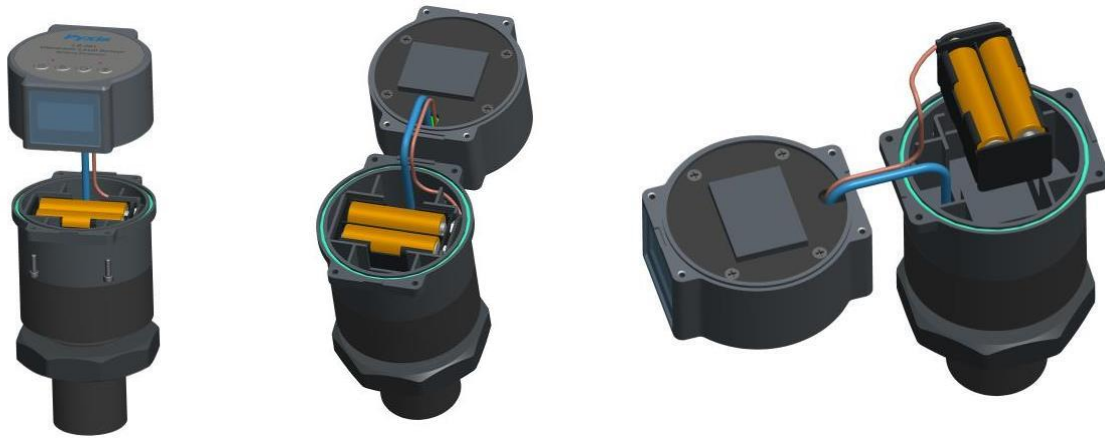

Figure 1. Battery Installation
The LS-202 can be powered by four (4) AA alkaline batteries if a 24 VDC is not available. The measured level signal can be read by the uPyxis app via Bluetooth or transmitted to a controller via the Pyxis Bluetooth to 4-20mA Transmitter BTA-100. Do NOT use rechargeable nickel cadmium (NiCad) or rechargeable lithium batteries. Typical battery life after replacing a new battery set is about 6 months when the measurement interval is one hour. The LS-202 battery compartment is shown in Figure 1.